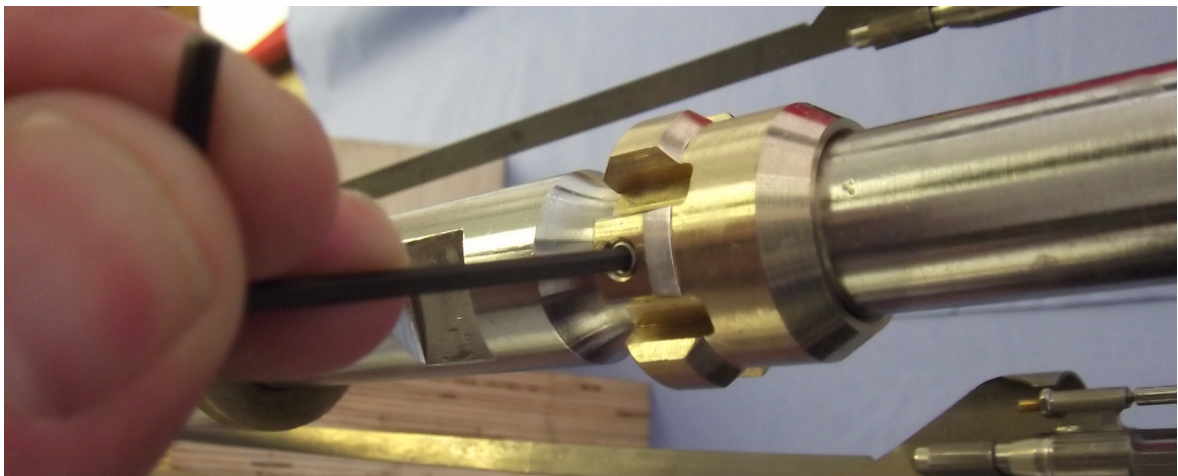

Figure 5.23 Fit Grub Screws into the Mounting Front Sensor Guide
- 2 Loosely fit the Grub Screws into the Mounting Front Sensor Guide. See Figure 5.23.